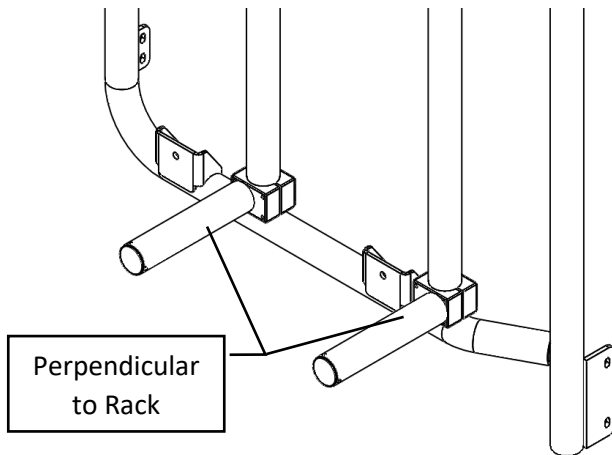

Figure 2: Bottom Supports Installed
- b. Short supports high & long supports low = one bike high & mid-sized box low with bike in front (Figure 2).